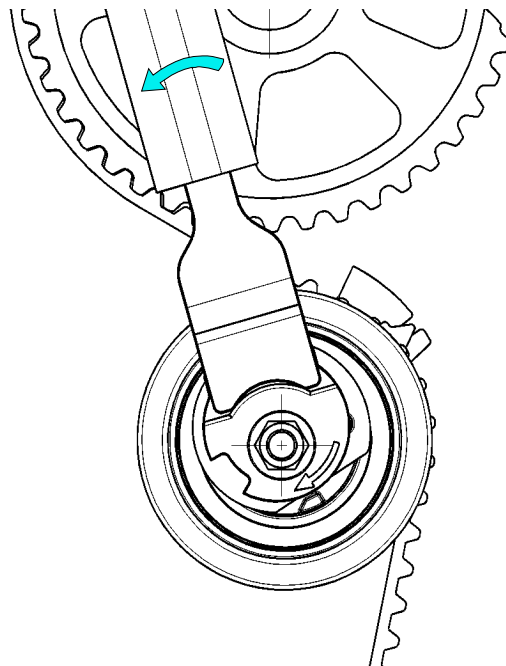

Figure 12: Tensioner Shown at Nominal Position
15. Rotate the installation shaft counterclockwise slowly and align the arm pointer with the base plate notch, see Fig. 12.
If the arm pointer is aligned with the base plate notch, see Fig. 12. The installation is complete.